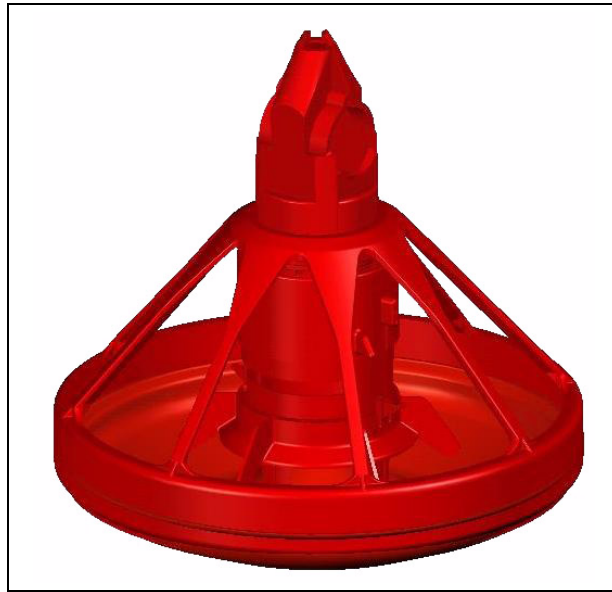

Figure 7Q
- Slide grill (7101254) over the top of the drop tube assembly and snap the pan (7098857) onto the grill as shown in Figure 7Q.